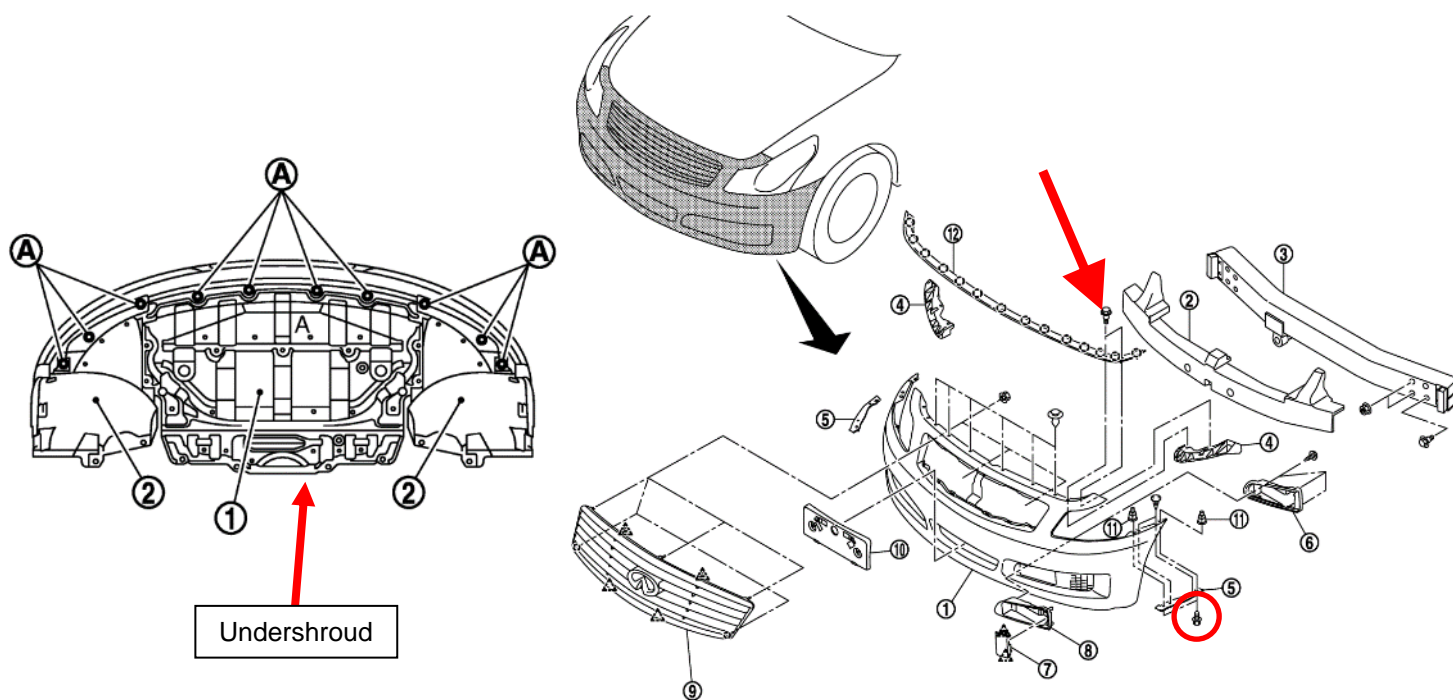

Figure 2
14. Remove plastic clips and the front wheel/fender liners to reveal (2) two mounting screws at each side of the vehicle which mounts corner of the Bumper Fascia to the fender (screw circled in *Figure 2* above). Remove mounting screws on each side.
15. Lift up on the hood seals at the front corner of the engine bay to reveal (2) two mounting screws at each side of the vehicle that mounts the upper corner of Bumper Fascia to the fender (screw shown with arrow above). Remove mounting screws on each side.
16. Remove (6) six plastic pop clips securing the Upper Bumper Fascia to the vehicle at the radiator core support.
20. Remove (4) four bolts and (4) four hex nuts securing the Front Crash Bar to the chassis, retain the hardware as it will be reused. Remove Crash Bar.